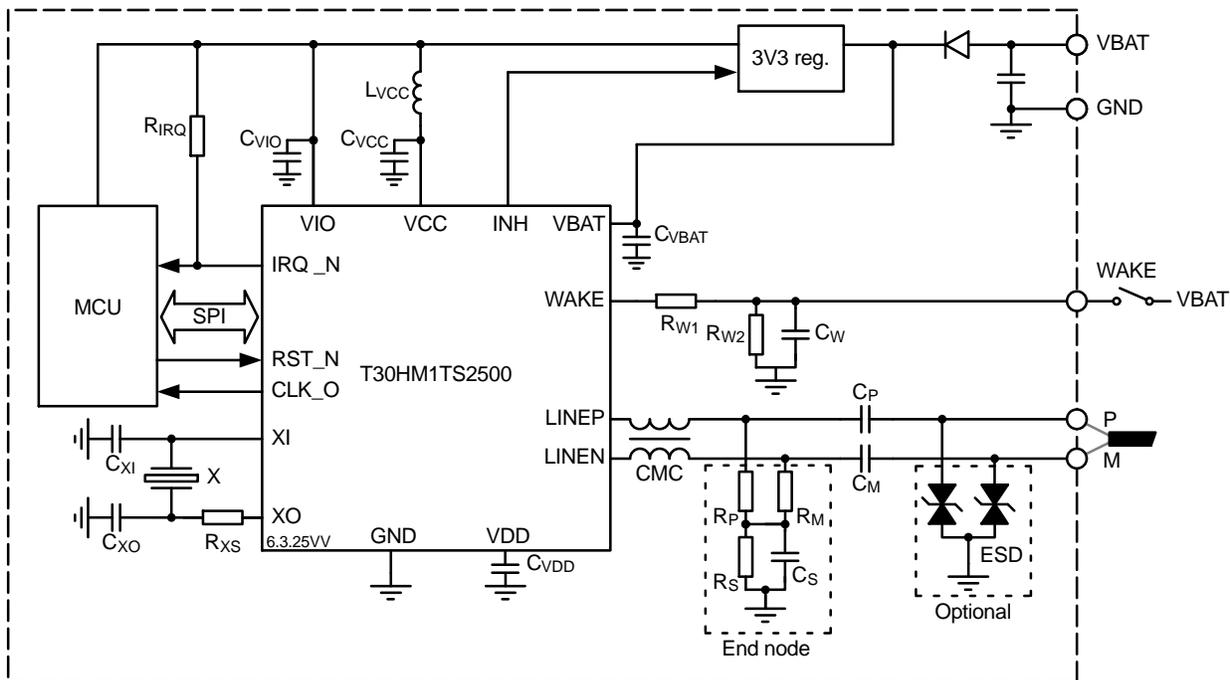

Figure 1. 10BASE-T1S MAC-PHY Application Diagram
Figure 1 shows the typical application diagram of MAC-PHY 10BASE-T1S node using an T30HM1TS2500 transceiver (the NCV7410 may also be used).
- 10BASE-T1S requires two capacitors to DC decouple the communication lines ( $C_P$  and  $C_M$  in Figure 1). As discussed in the conclusion below, these two passive capacitors cost bring possibility of PoDL (Power over Data Line) and allows better protections of lines against DC shorts. Advantage e.g. in 48 V harness, etc. Supplying power over the data pair removes the need for separate power cabling, cutting system costs and reduce wiring-harness complexity.